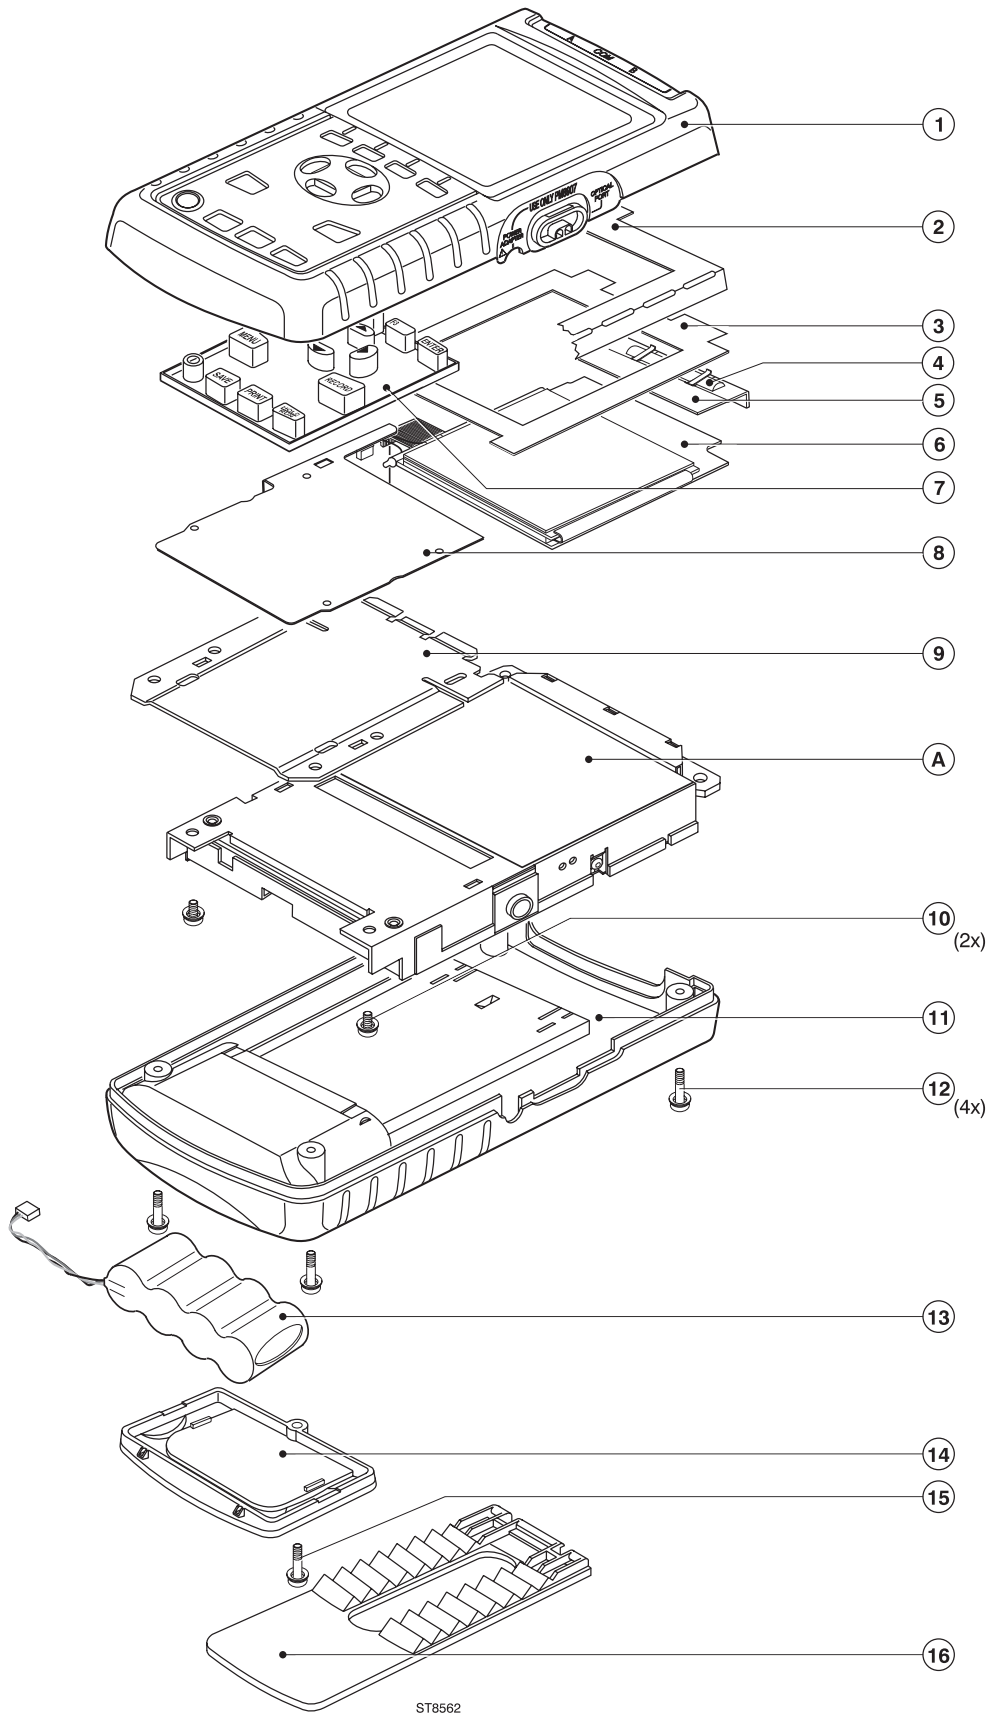

Figure 6-1. Fluke 43B Main Assembly
Referring to Figure 6-1, use the following procedure to remove the battery pack.
1. Loosen the M3 Torx screw (item 15) (do not remove it) from the battery door.
Referring to Figure 6-1, use the following procedure to remove the bail (item 16).
Referring to Figure 6-1, use the following procedure to open the test tool.
Referring to Figure 6-1, use the following procedure to remove the main PCA unit.
There are no serviceable parts in the display assembly. Referring to Figure 6-1, use the following procedure to remove the display assembly.
Referring to Figure 6-1, use the following procedure to remove the keypad and the keypad foil.
Reassembling the test tool is the reverse of disassembly. However you must follow special precautions when reassembling the test tool. Refer also to figure 6-1.